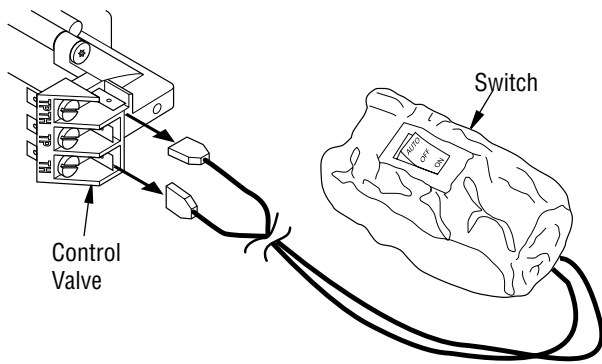

Figure 17- Disconnecting Switch from Control Valve
6. If installed, disconnect AUTO/OFF/ON switch wire from control valve at TPTH and TH locations (see **Figure 17**).
7. Connect wires from hardware pack (with remote receiver bracket) to control valve at the TPTH and TH locations as shown in **Figure 17**. Connect other ends of these wires to remote receiver wires.